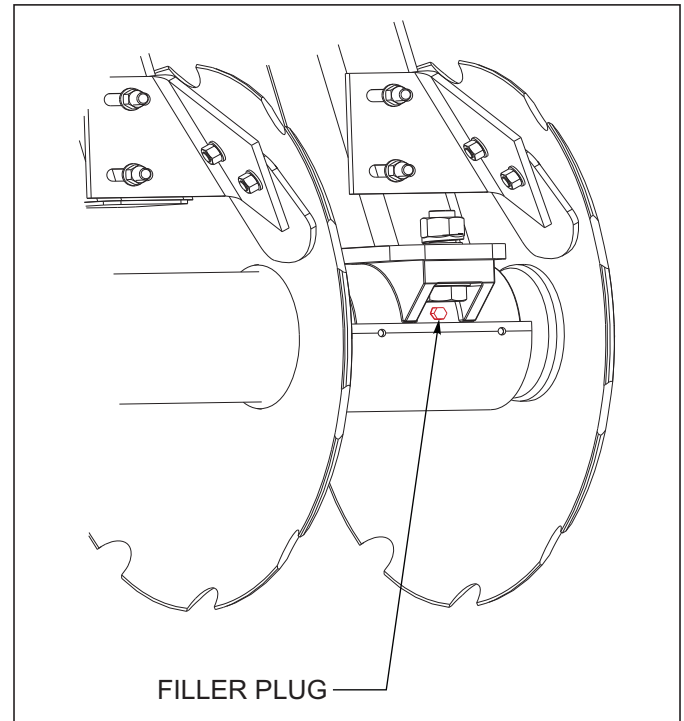

Figure 3-1: Filler Plug Location
5. To check oil level in bearings, remove the filler plug on the center of the housing **See Figure 3-1** and check the level at the bottom of the filler plug opening. If oil begins to leak slowly, then the reservoir is full. Immediately replace the plug. If oil runs out freely, let it drain into the drain pan until it seeks its own level, **which is just at the bottom of the filler plug opening.** If the oil level is below the level of the filler plug, bend a short length of metal wire and insert into the filler plug opening. Pull the wire out and note the oil level. If the level is below $\frac{1}{2}$ " below filler plug opening, add SAE 90 mineral gear oil to bring it up to the recommended level. Check the plug for damage to the threads. Apply thread sealer on filler plug threads and replace the filler plug into the housing.
7. To replace oil if bearing is still fastened to frame, remove the filler plug on the center of the housing **See Figure 3-1.** Use a suction pump to draw out the oil by hand from the filler plug opening. Inspect old oil for any metal flakes or shavings that could be caused by excessive bearing wear. Using SAE 90 mineral gear oil, fill housing with oil to the recommended level. Check the plug for damage to the threads. Apply thread sealer on filler plug threads and replace the filler plug into the housing.
9. **Recommended:** To replace oil if bearing is free from frame, remove the filler plug on the center of the housing **See Figure 3-1**. Rotate the bearing assembly until the filler plug opening is pointed downward and allow oil to drain into drain pan. Inspect old oil for any metal flakes or shavings that could be caused by excessive bearing wear. Using SAE 90 mineral gear oil, fill housing with oil to the recommended level. Check the plug for damage to the threads. Apply thread sealer on filler plug threads and replace the filler plug into the housing.